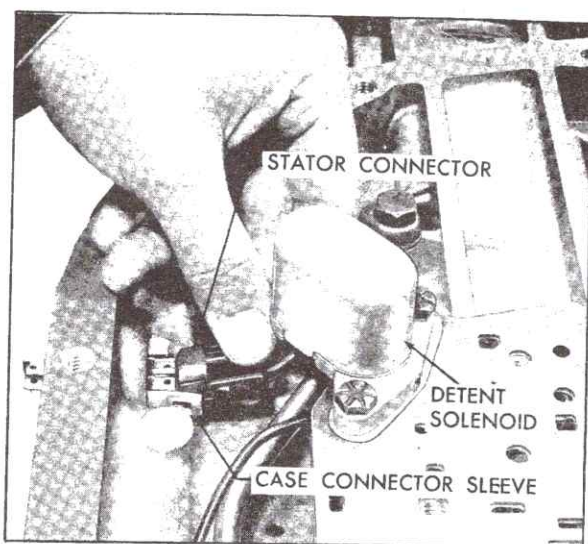

Fig. 7-102 Installing Stator Connector
13. Connect solenoid, and on AA transmissions, stator lead, to connector terminals, Fig. 7-102.